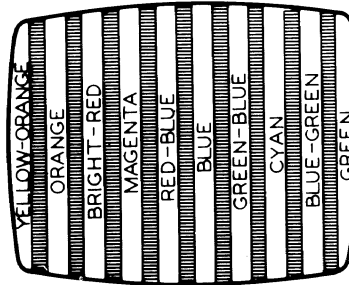

Figure 4
- ( ) Change the program switches to "0001." The picture tube should display up to ten vertical color bars that may or may not have a color hue. Turn COLOR ADJUST trimmer C9 so the color bars are as indicated in Figure 4 on Page 43. (You may only see eight or nine color bars.) It may be necessary to readjust the television fine tuning, color level, or color killer to obtain color.
**Program slide switches** — These four switches are used to select the output signal. When a switch slide is moved toward the large trim label, it is in the "1" position. When the switch slide is moved toward the small Heathkit label, it is in the "0" position. The trim label illustrates the various signals that can be displayed on a television. Next to each illustration is the required switch program. **NOTE:** The illustrations on the trim label showing multiple patterns are only representative and do not show actual pattern density. The three color patterns are a rainbow (1111), three color bars (1100), and ten color bars (0001). Figure 4 illustrates the ten bar color sequence. You may not see all ten color bars on some television sets.